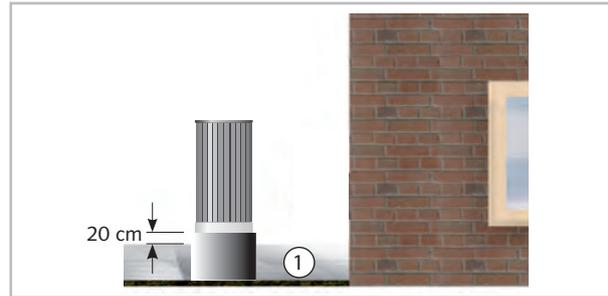

Fig. 21: Protection against snow
- If the outdoor unit is erected in an area of strong winds, then the unit must be protected against them and additional stabilisation is recommended. This can be realised with wire ropes or other constructions. The snow line is to be observed during installation (Fig. 21).
- During installation, add about 20 cm to the expected snow depth to guarantee unimpeded intake and exhaust of outdoor air year round (Fig. 21).